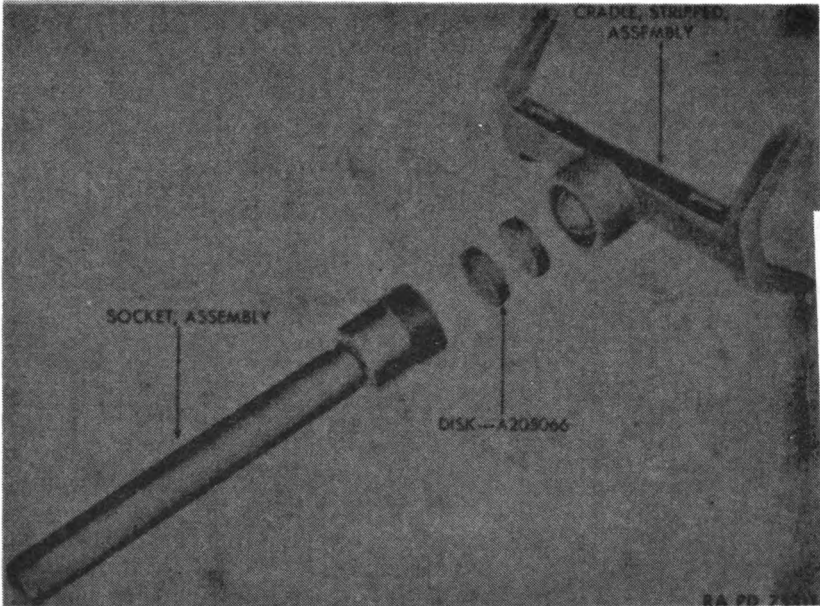

Figure 21—Tripod M14—Removal of Cradle With Ball Assembly From Socket With Shaft Assembly
- (2) Unscrew the knurled nut at the base of the cradle with ball assembly, and separate that assembly from the socket with shaft assembly (fig. 21).
- (3) Should the cork disks A205066 (fig. 21) need replacing, pry them out with the blade of a small screwdriver or pocketknife. Inasmuch as the disks are likely to break into small pieces during this procedure, care should be taken to remove all small bits of cork from the socket.